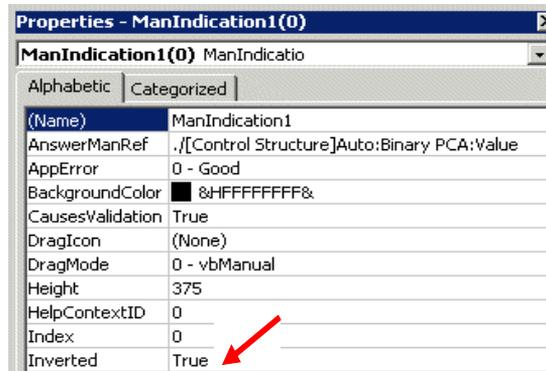

Figure 117. Inverted connection
- Use the Inverted property if you need to invert the indication. See Figure 117.